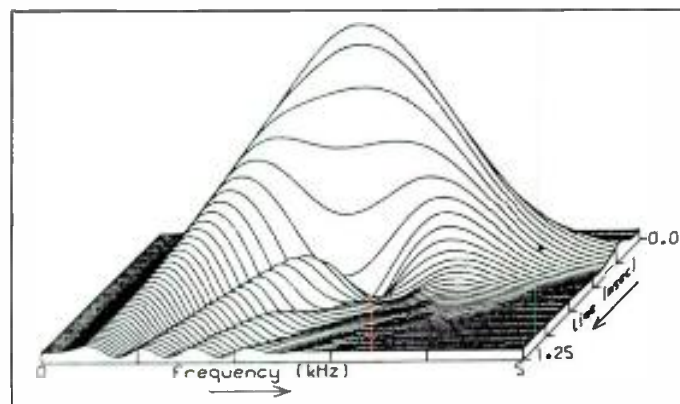

Figure 11. The cumulative spectra display of the response of a bandpass filter. (Philips)
The People at Philips Research Labs in the Netherlands have taken a somewhat different approach. Called "Wigner Distribution," it uses instrumentation techniques similar to the digital impulse testing method in use at KEF. As Janse and Kaizer (18) report in their paper, "...The Wigner distribution of a signal can be interpreted as a distribution of the signal energy in time and frequency. It is a basic time-frequency distribution..." FIGURES 11 and 12 show the response of a bandpass filter in cumulative spectra form and the Wigner Distribution display contour plot. The top view of the *mountain range* in the Wigner plot shows the effects of phase-shift or time-delay in this filter (about 0.5 msec. at 1 kHz).